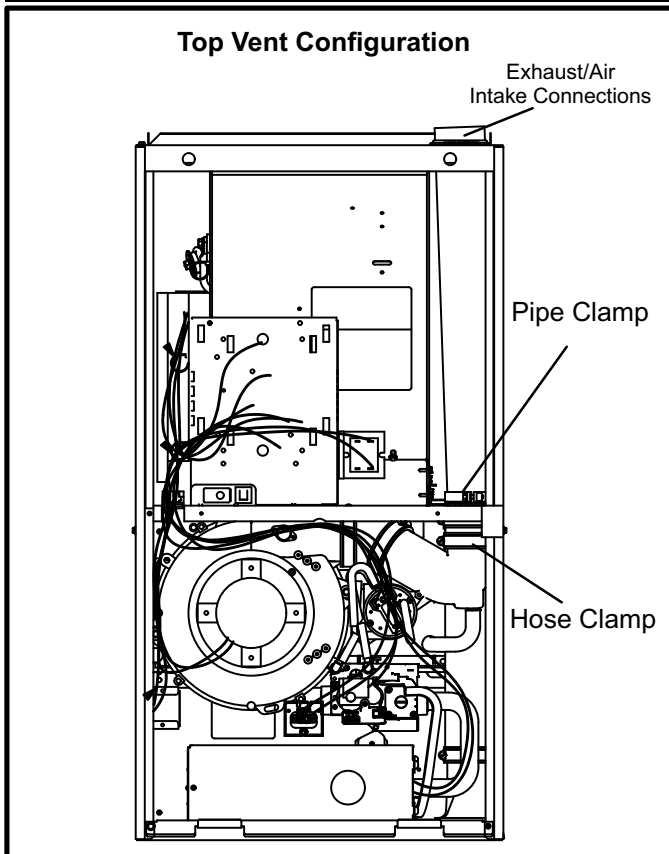
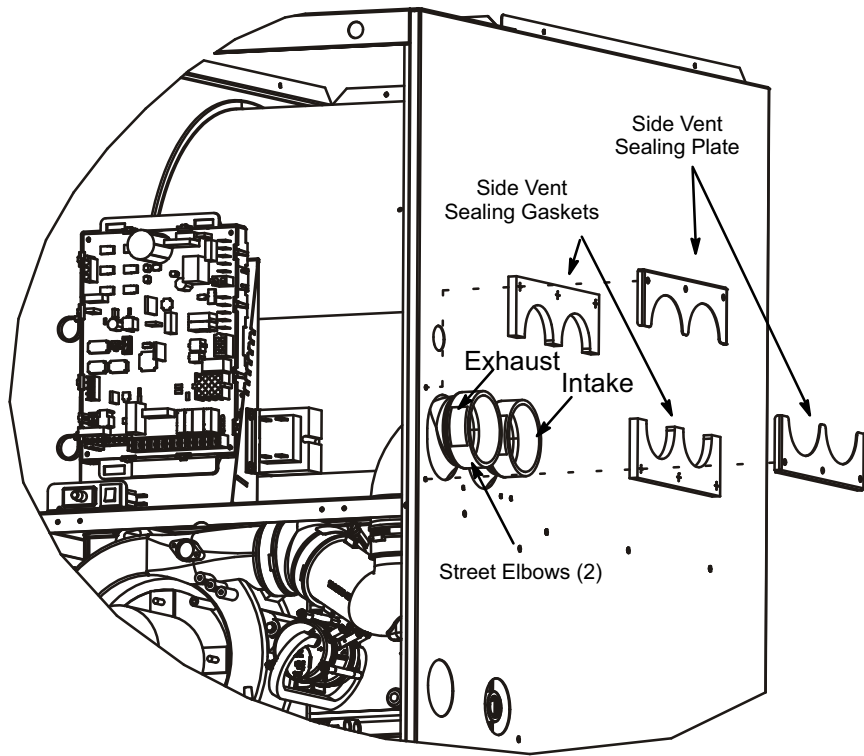

FIGURE 17
FIGURE 19
The EL296DFV is shipped with vent exhaust / air intake connection at the top cap. See figure 17. Using parts provided, the furnace may be field modified to have these connections on the right side of the furnace cabinet. See figure 19 and follow the steps below. For left side venting order kit 87W73.
- 2 - Loosen hose clamps which attach rubber fittings to the white PVC pipes inside the vestibule area. See figure 17.
- 3 - Loosen the clamp which secures the pipes at the blower deck. See figure 17.
- 11 - Peel protective backing from side vent sealing gaskets (2) and apply to side vent sealing plates (2) as shown in figure 19.
- 12 - Install the side vent sealing plates and gaskets on the exterior of the cabinet as shown in figure 19. Secure with six mounting screws (four reused and two provided from bag assembly). Holes are pre-punched in the parts and cabinet, no drilling is required.